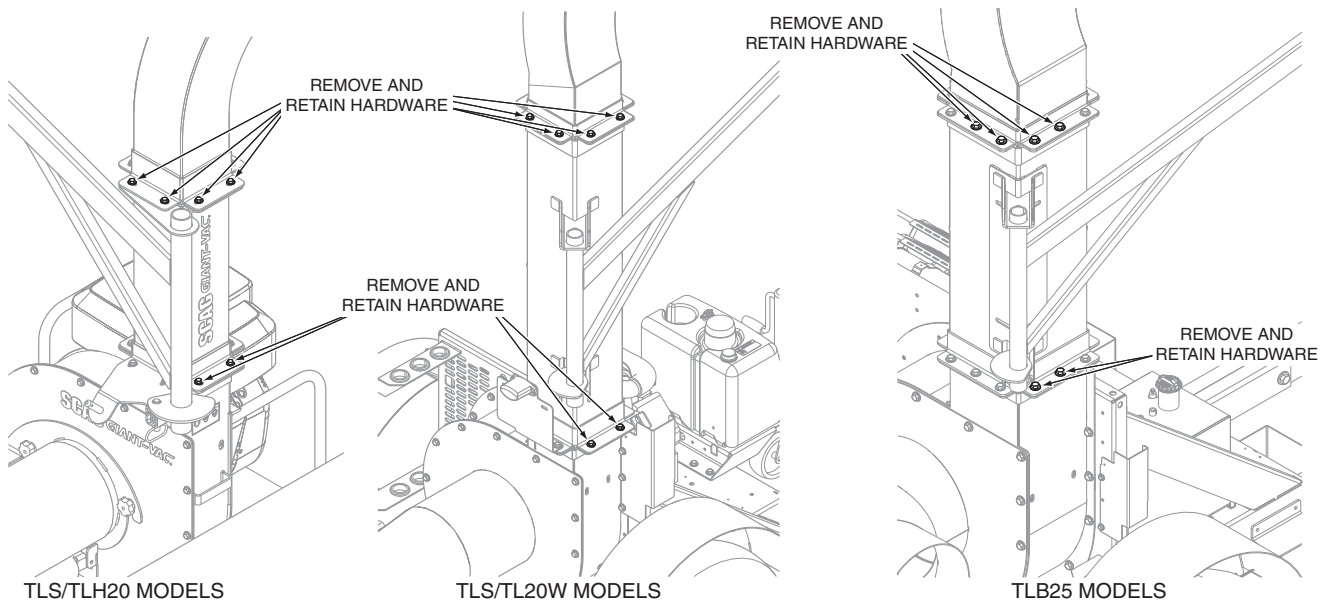

Figure 1. Hardware Removal
2. Remove the mounting hardware from the upper and lower joint of the discharge stack. See Figure 1. Retain the mounting hardware as it will be used to secure the light kit brackets to the machine.